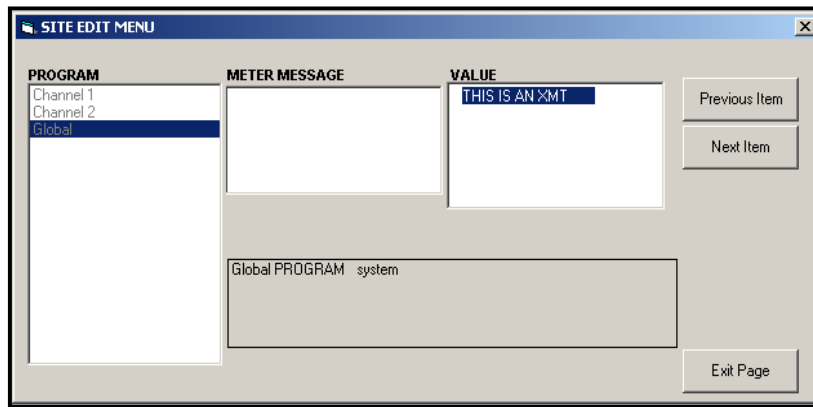

Figure 46: The System Option in the Global Menu
2. Highlight and double-click on the System option in the center pane. The window now appears similar to *Figure 46*.